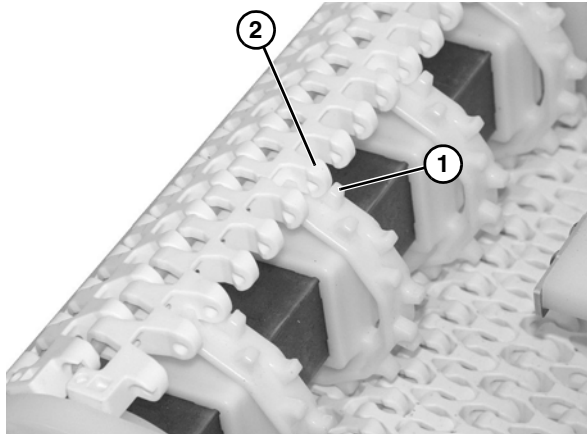

Figure 15
4. Wrap the belt around the drive end of the conveyor, making sure the sprocket teeth have engaged the belt, with concave teeth (Figure 15, item 1) mating with rounded section (Figure 15, item 2) of belt.